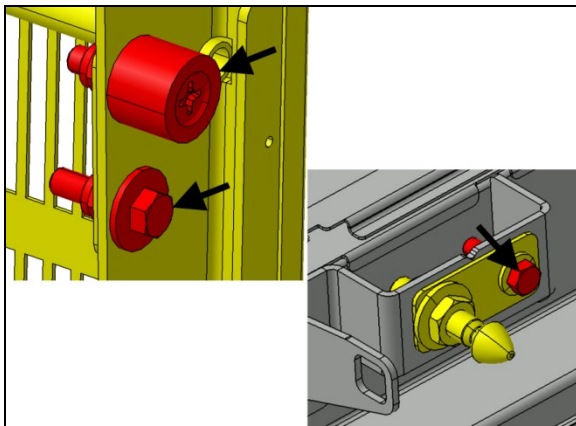

FIGURE 131
5. Open the door and perform a final tightening to the items indicated with arrows (FIGURE 131).